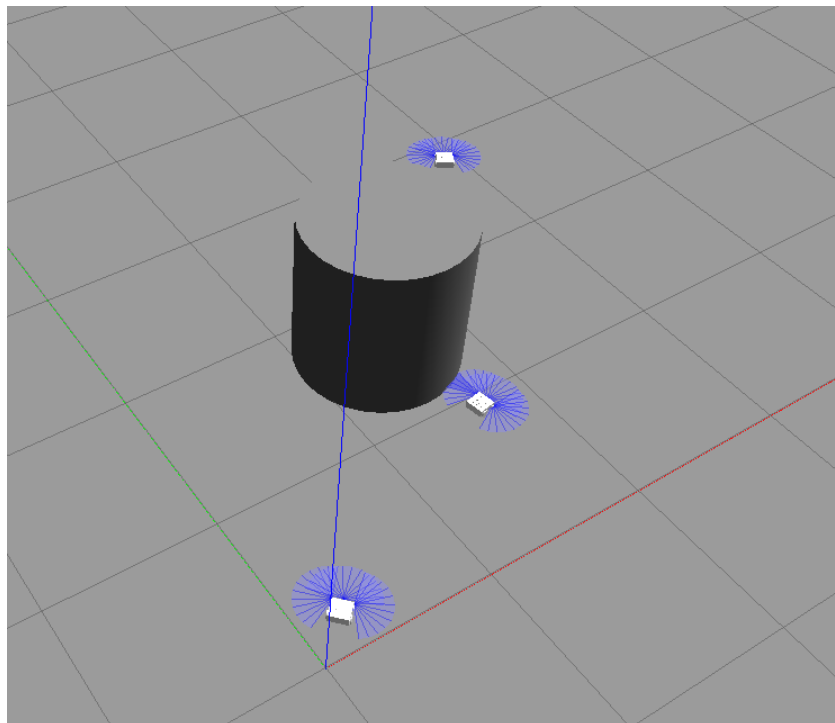

Figure 6: Obstacle avoidance and cylinder placement
- Open a new tab (2) and write `'source devel/setup.sh'`
- Open a new tab (3) and write `'source devel/setup.sh'`
- You can for example add a cylinder of nominal diameter on position 1.5;1.5 (shown on Figure 6) and run a simulation using the `publish.py` and `my_robot_control_plot.py` scripts.